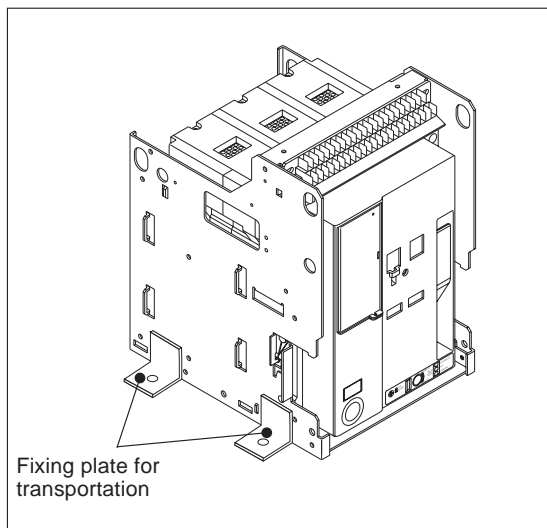

Fig. 2-2:
- ③ After unpacking, check whether the breaker is in correct condition or not.
- ④ Check whether the items described on the rating nameplate and accessory nameplate match those of the purchase order agree.
- ⑤ Remove the fixing plate (in case of the drawout type, see fig. 2-2).